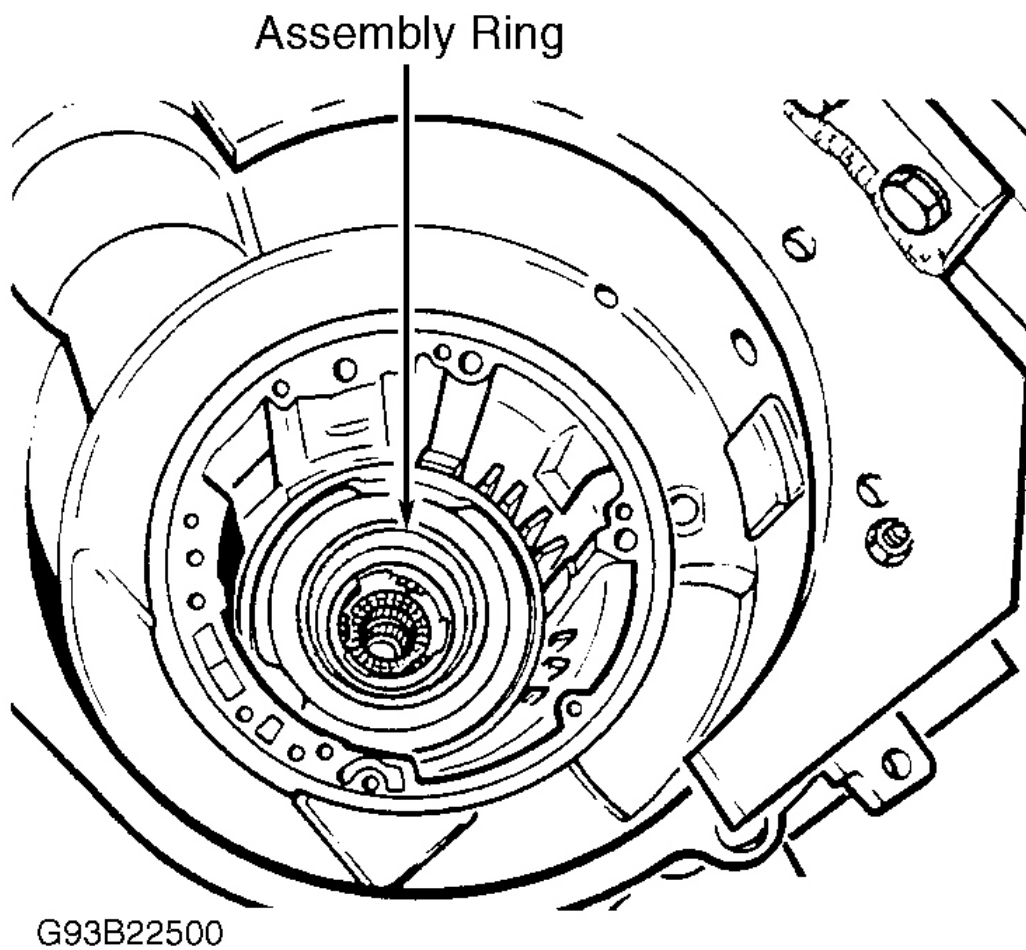

Fig. 67: Installing One-Way Clutch
2. Install reverse brake clutch plates. See Fig. 66 . See the **BRAKE CLUTCH PLATE APPLICATIONS** table. Using Assembly Ring (VW 3267), install one-way clutch and secure using circlip. See Fig. 67 and